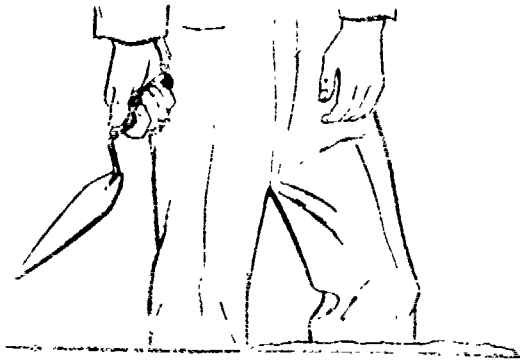

FIGURE 1 CORRECT WAY TO HOLD A TROWEL
2. Grasp the handle of the trowel between your thumb and index finger with the thumb on the back edge of the blade. See Figure 1, page 6.
4. Cup and pick up a full trowel of mortar spreading it onto a training board (2 x 4). Release the mortar and watch it fall. Watch and feel the elbow of the arched hand should be away from the body. The awkward feeling of the arched hand will leave and a comfortable hand will be formed in a short time. See Figures 1 and 2, page 6.